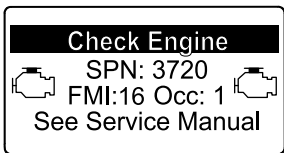

Figure 75
- Engine warning SPN 3720, FMI 16 (Figure 75)